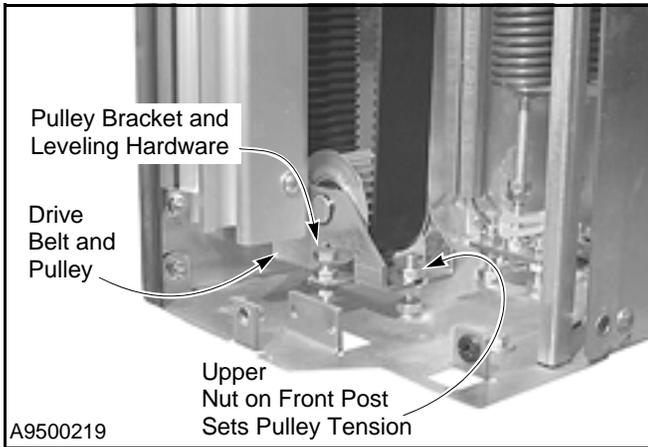

Figure 40
5. The front post is used to set the tension on the drive belt. Thread the upper nut down against the pulley bracket until the belt is properly tensioned. Tighten the lower nut against the bottom of the pulley to lock in the tension. (See Figure 40.)
7. Level pulley assembly, as required, and tighten hardware. (See Figure 40.)